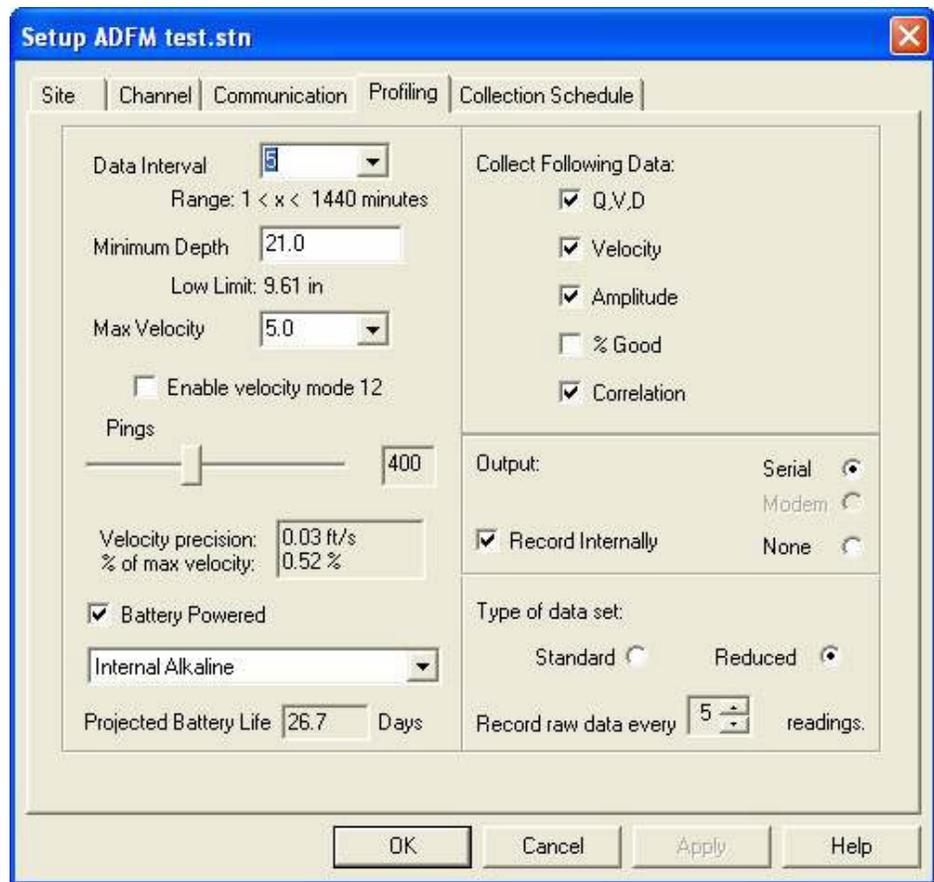

Figure 2-12 Profiling tab
10. Profiling Tab (Figure 2-12)
13. To enable Burst Sampling, check the box next to Burst Sampling (Figure 2-12), then select Configure.
18. The reading interval for Record Raw Data (Figure 2-12, below Data Format) is based on the sampling (reading) interval. Recording raw data for a single reading includes additional diagnostic information embedded within the Q, V, and D reading. The additional raw data creates a larger file.